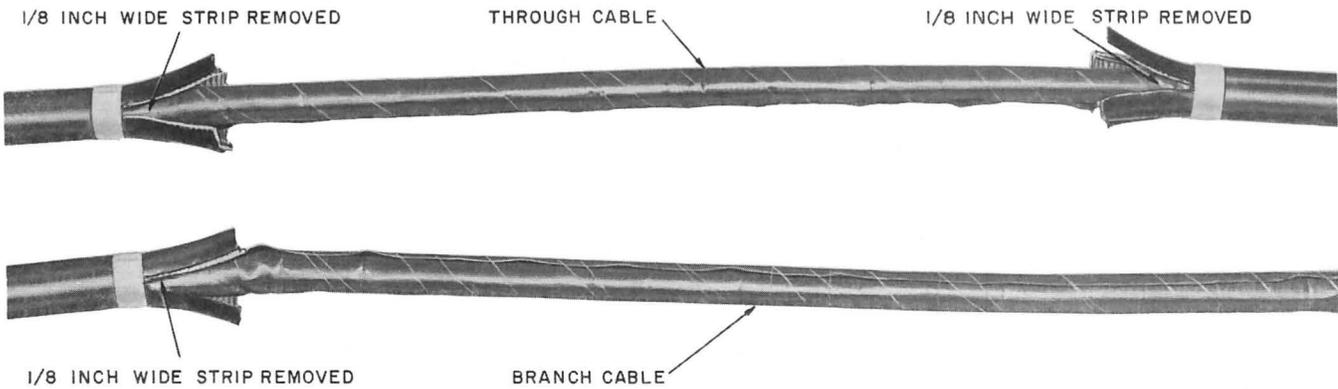

Fig. 19—1/8-Inch Wide Strip Removed From Cable
5.11 Cut a 1/8-inch wide strip from each sheath opening as shown in Fig. 19.